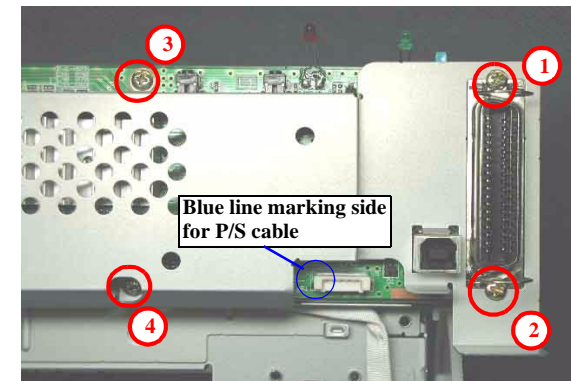

Figure 4-44. Circuit board assembling
- Make sure to connect all cables to the connectors (CN2, CN4, CN7, CN8, CN9, CN12) on the Main board in the correct direction. (Refer to Figure 4-44)